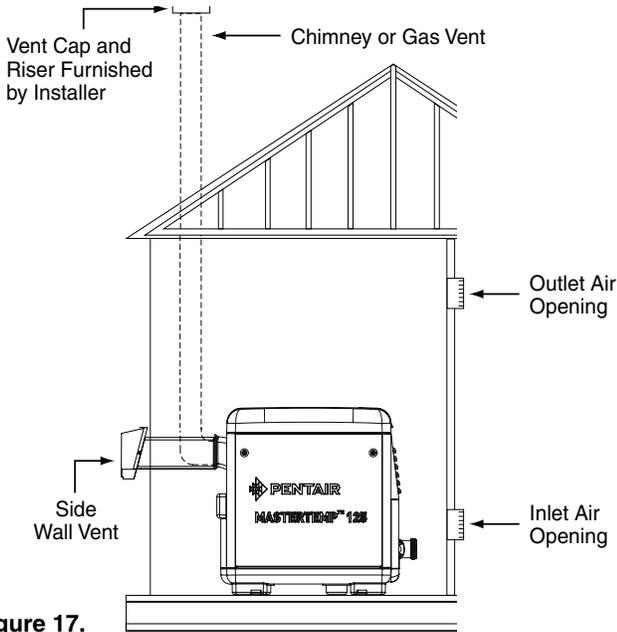

Figure 17.
HORIZONTAL OR VERTICAL VENTING - USING SINGLE-WALL STAINLESS GAS VENT (SEE FIGURES 17, 18, 19 ON PAGE 15 & FIGURE 20 ON PAGE 16)
6. **Vent Termination – Vertical** (see Figures 17, 18, 19 on page 15 & Figure 20 on page 16) for height of vent termination above the roof. Use an "Approved" vent terminal specified by local and national codes and your manufacturer's instructions. A roof termination must be vertical.